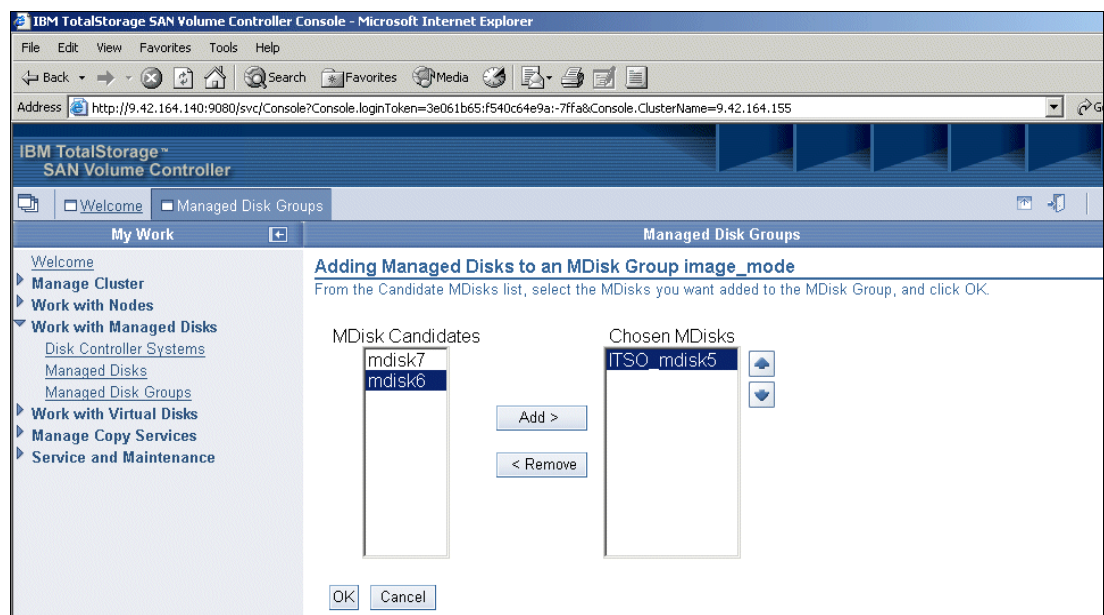

Figure 9-47 Adding mDisks to a MDG
2. From the Adding Managed Disks to an mDisk Group *mDiskname* panel (where *mDiskname* is the MDG you selected in the previous step), select the desired mDisk from the mDisk Candidates list (one at a time) and click **Add** to move it to the Chosen mDisks list. After you select all the desired mDisks, click **OK**. See Figure 9-47.